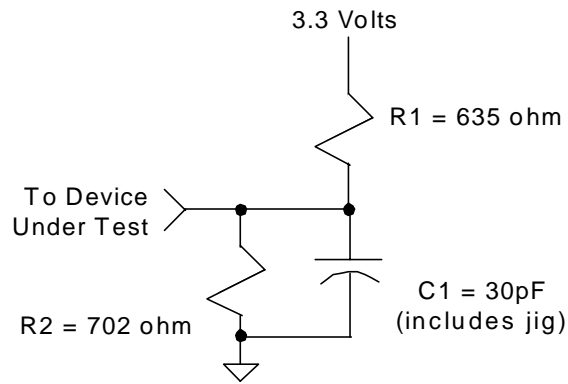

Figure 5: AC Test Load A
6. With loads specified in Figure 5.